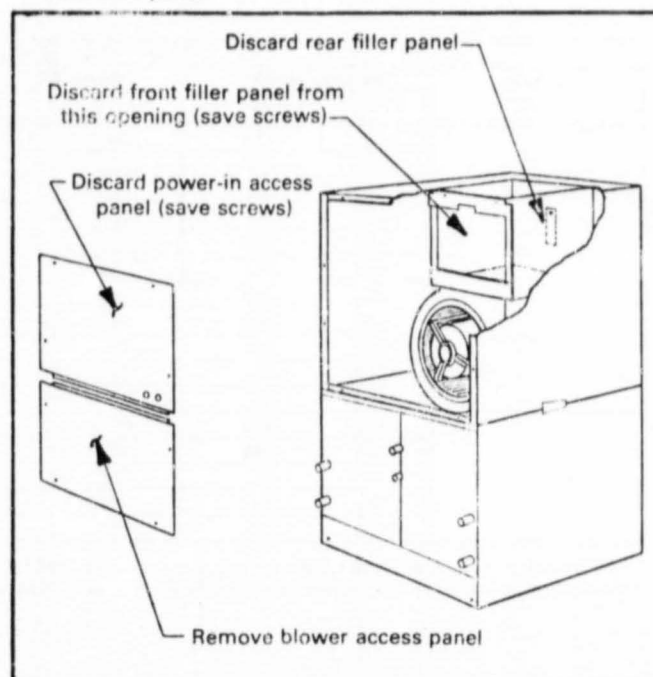

FIGURE 1
- 2 - Remove blower access panel and power-in access panel covering blower duct extension. Discard the power-in access panel and save the sheet metal screws. See Figure 1.
- 3 - Remove and discard front and rear filler panels from blower duct extension. Refer to Figure 1. Save the 1/4-20 machine screws from front filler panel.